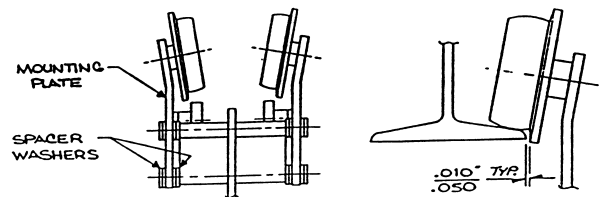

Fig. 1a
3. The clearance between the beam flange edge and the main wheel flange or the guide wheel (depending on the type of running gear supplied) must be .010" to .050" each side. This would produce an overall lateral movement of .020" to .100". (Figs. 1a & 1b)